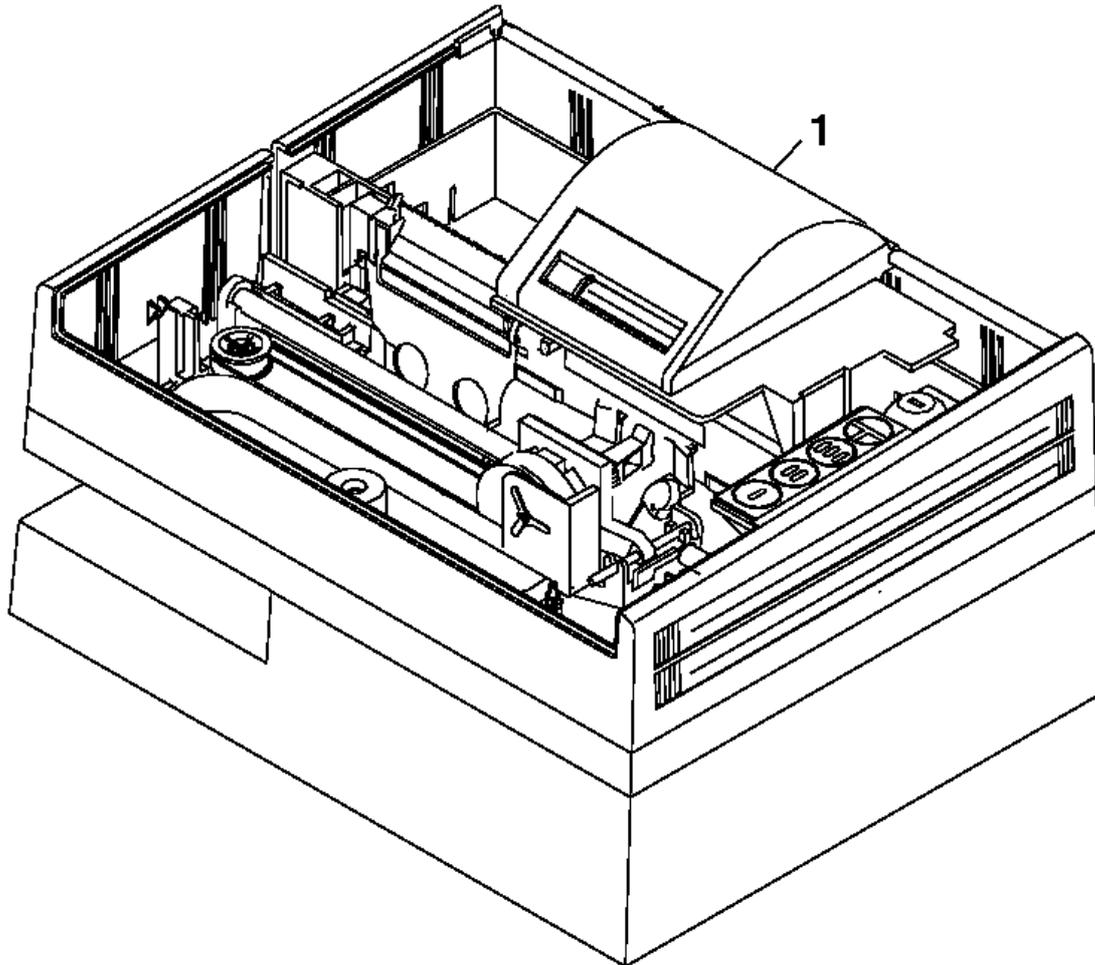

Figure 5-15. Journal Cover
2. Raise the journal cover. See Figure 5-15 in topic 5.5.8.2.